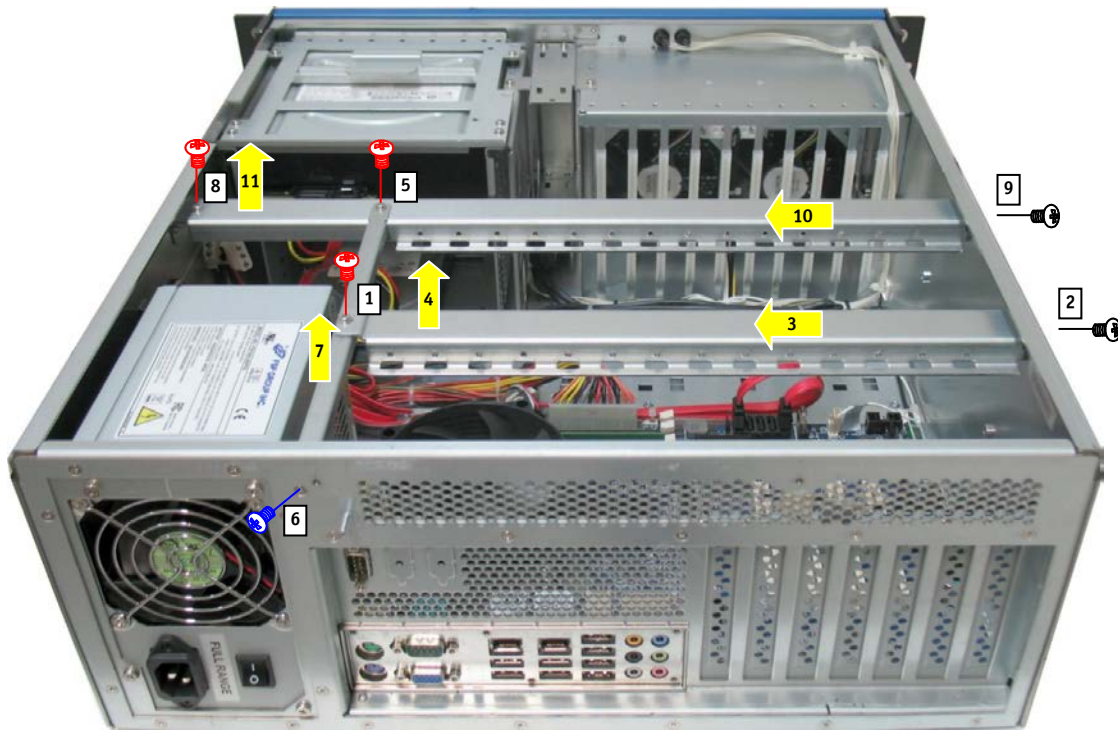

Fig. 34: Opened KISS 4U V2 platform - removing the card hold down brackets
5. Loosen the internal and then the externally accessible fastening screw that secure the card hold down bracket for short expansion cards (see Fig. 8 and Fig. 9, pos. 7), (Fig. 34, step 1 and 2). Pull the card hold down bracket to the left (Fig. 34, step 3) to detach it from the sideways mounted bolts. Lift the card hold down bracket out (step 4). Put the card hold down bracket and the screws aside for later use.
6. Loosen the internal and then the externally accessible fastening screw that secure the retaining bracket (see Fig. 8 and Fig. 9, pos. 8), (Fig. 34, step 5 and 6). Lift the retaining bracket out (Fig. 34, step 7). Put the retaining bracket and the screws aside for later use.
7. Loosen the internal and then the externally accessible fastening screws that secure the card hold down bracket for long expansion cards (see Fig. 8 and Fig. 9, pos. 6), (Fig. 34, step 8 and 9). Pull the card hold down bracket to the left (Fig. 34, step 10), to detach it from the sideways mounted bolts. Lift the card hold down bracket out (Fig. 34, step 11). Put the card hold down bracket for long expansion cards and the screws aside for later use.